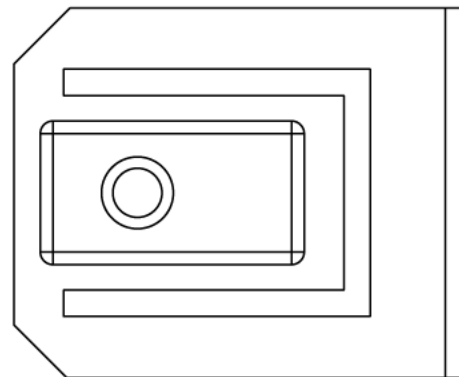

Figure 3-1. Service Switch
1. Open the door and pull the SERVICE button (*Figure 3-1*) out to the SERVICE position. The phonograph display will read * SERVICE MODE *.
2. Pull the SERVICE switch out to the SERVICE position (*refer to Figure 3-1*).